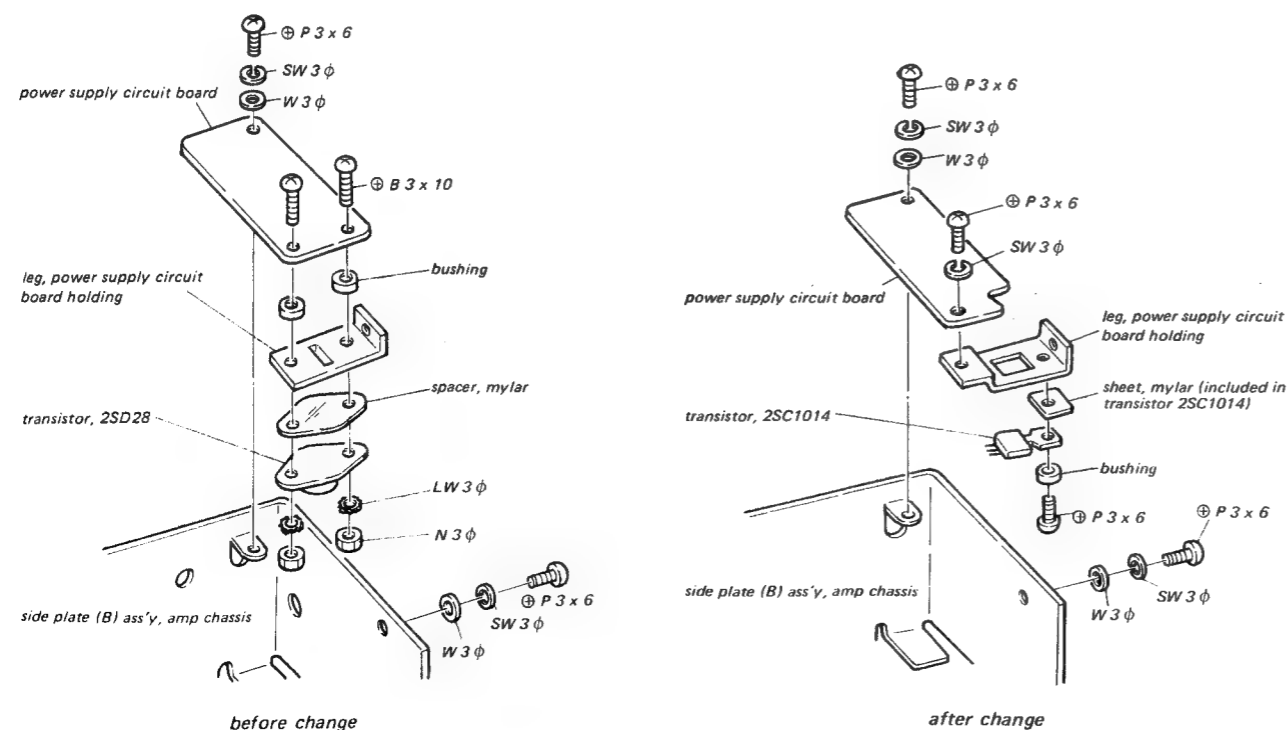

Fig. 1 Transistor change
1. The following parts are changed. See Fig. 1. The former and new parts are noninterchangeable.